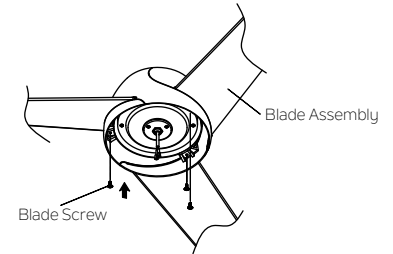

Fig. 9
Step 5. Turn over the motor assembly carefully and securely tighten blade assemblies with blade screws.(Fig. 9)